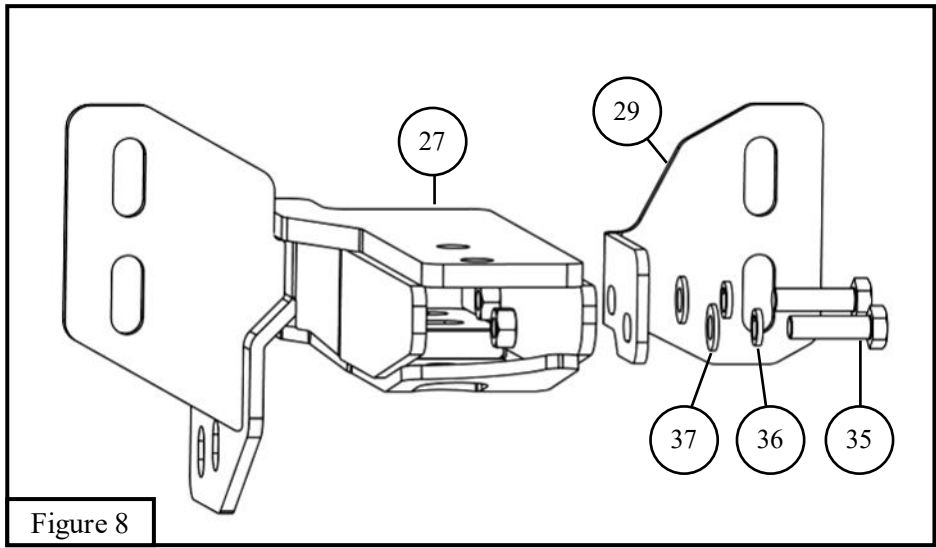

Figure 8
20. Loosely install the HDX driver and passenger wings (**items 2 and 3**) to the HDX grille guard base assembly using the M8 hardware (**items 21-23**). See **Figure 8 & 9** for reference.
13. Loosely install the driver winch tray mount bracket “B” (**item 29**) onto the driver winch tray mount bracket “A” using the M10 hardware (**items 35-37**). See **Figure 8**.
15. Reinstall the bumper. Attach the bumper to the winch tray mount brackets using the factory bolts and M12 hardware (**items 32-34**).